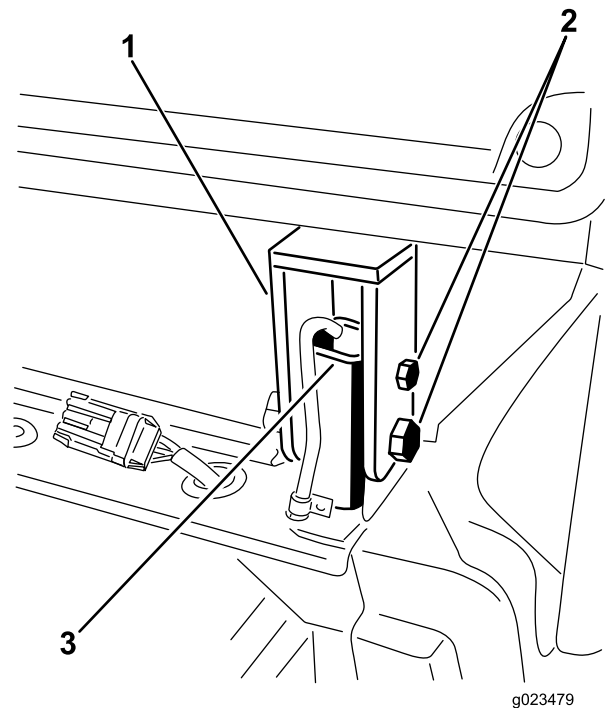

Figure 26
14. Tighten the bolts and nuts securing the rear-cab mounts to the ROPS posts (Figure 26).